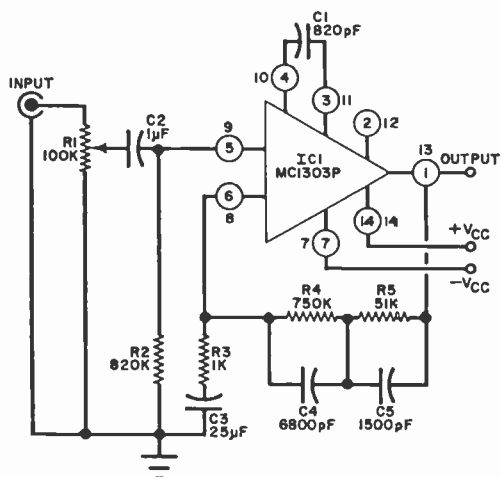

Fig. 3. This circuit is used for RIAA equalization for magnetic phono playback. A slight change in R4 value can be made (see text) without doing harm.
**Power Supply.** Power transformer *T1* and choke *L3* are mounted at the top rear of the chassis while power switch *S1* and pilot light *I1* are on the front apron. The keying jack, *J2*, can be placed anywhere you wish. Mount fuse holder *F1* on the rear apron of the chassis and use multi-lug terminal strips to mount the rest of the power supply components under the chassis near the transformer (see Fig. 3). When soldering the diodes in the power supply, use a long-nose pliers as a heat sink on the leads to avoid thermal damage to the semiconductors. Also, be sure to observe the cor-
Fig. 3. Use good r.f. wiring practice when assembling the final amplifier and antenna circuit. Keep all r.f. leads as short as possible and use heavy wire from the plate of V1B to the antenna. Although the keying jack (J2) is shown at one side, it can be mounted anywhere.
To make a magnetic phono playback preamp with RIAA equalization, use the circuit in Fig. 3. If you have trouble ob-